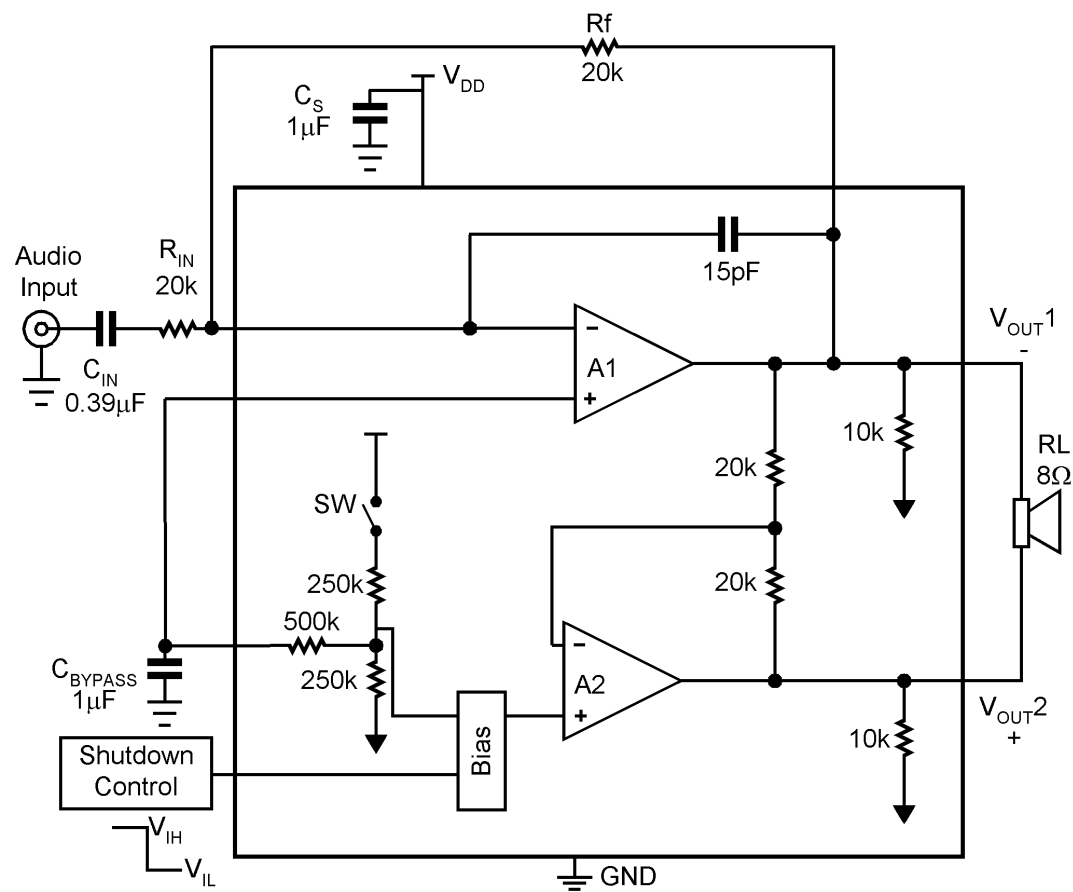

FIGURE 1. Typical Audio Amplifier Application Circuit
■ PSRR at 217Hz, $V_{DD} = 5V$ (Fig. 1)	62dB(typ.)
The following specifications apply for the circuit shown in Figure 1 unless otherwise specified. Limits apply for $T_A = 25^\circ\text{C}$.
The following specifications apply for the circuit shown in Figure 1 unless otherwise specified. Limits apply for $T_A = 25^\circ C$. (Continued)
The following specifications apply for for the circuit shown in Figure 1 unless otherwise specified. Limits apply for $T_A = 25^\circ C$.
Note 14: PSRR is a function of system gain. Specifications apply to the circuit in Figure 1 where $A_V = 2$. Higher system gains will reduce PSRR value by the amount of gain increase. A system gain of 10 represents a gain increase of 14dB. PSRR will be reduced by 14dB and applies to all operating voltages.
External Components Description *(Figure 1)*